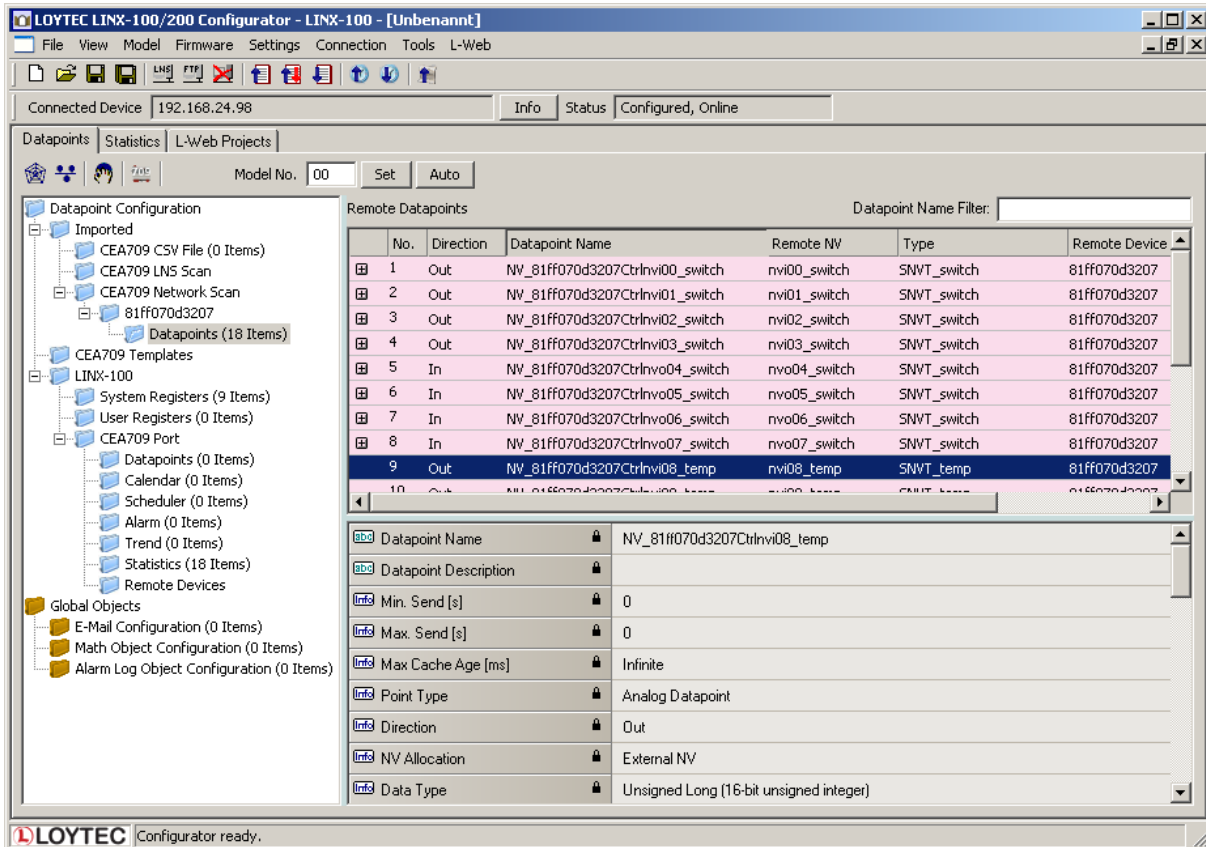

Figure 186: CEA-709 network scan results.
9. Then click the button **Scan**. This scans the NVs on the selected device and adds them to the CEA709/852 Network Scan folder as a separate sub-folder for the device as shown in Figure 186.